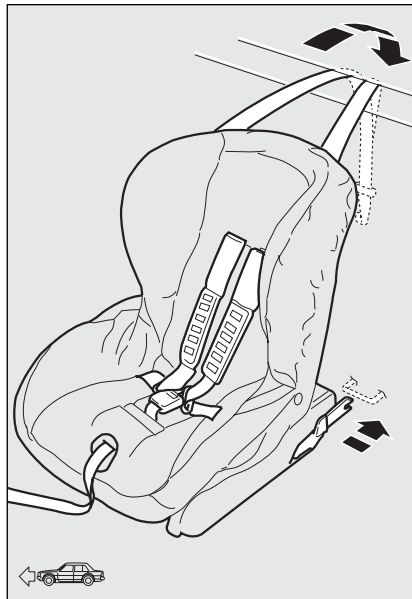

fig. 12
**Fig. 12** shows a child's seat by way of example. The Universal Isofix child's seat covers weight group: I.